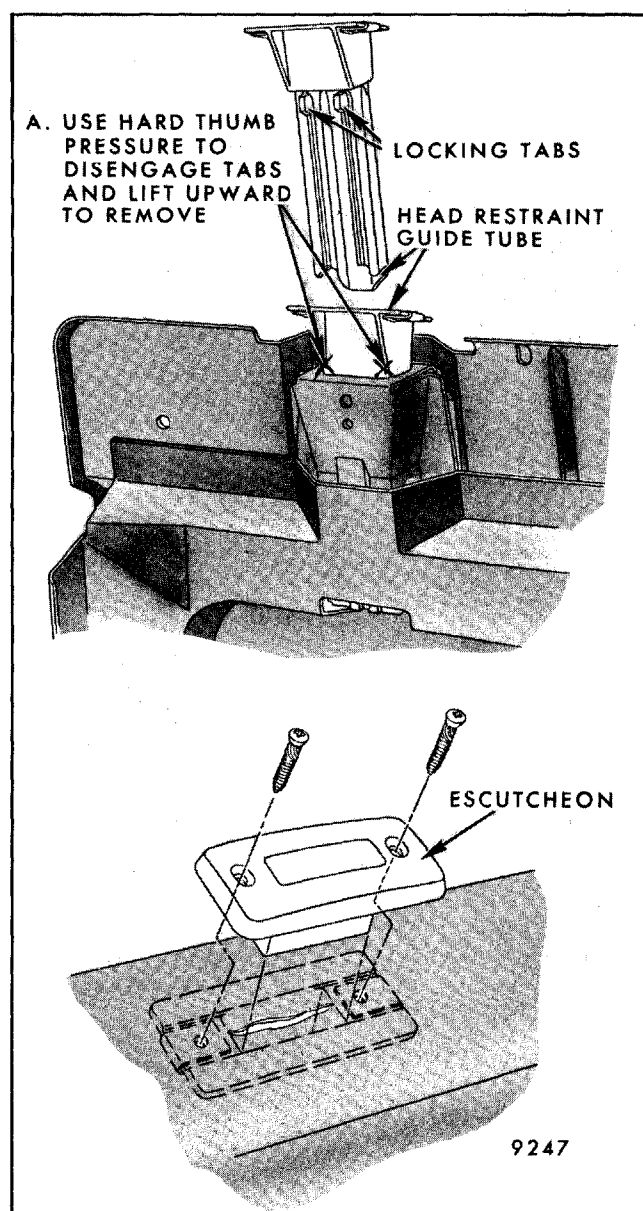

Fig. 9-86-Head Restraint Guide Tube Removal - A, B and C Styles
3. On A, B and C styles, remove seat back trim assembly. Detach upper portion of foam pad sufficiently to gain access to guide tube where it enters seat back frame; then using hard thumb pressure at points A shown in Figure 9-86, disengage tabs and lift tube upward to remove from seat back.
4. To install head restraint guide tube, reverse removal procedure. On B and C styles, insert tube as far as locking tabs (see Fig. 9-86); then strike tube downward with hand to lock in position.